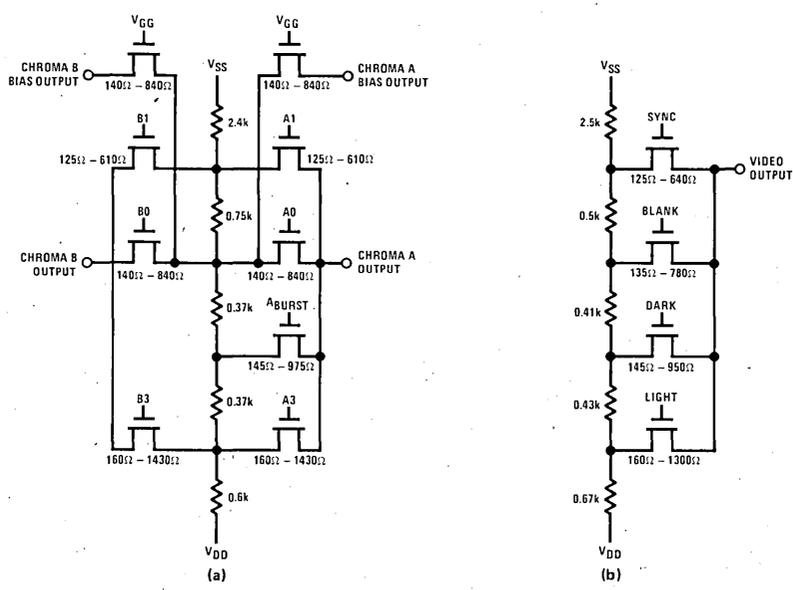

FIGURE 9. Chroma and Video Output Networks (See Notes on Page 4-41)
**Note 1:** Chroma A, Chroma B and the Chroma bias output levels are specified for dc current = 0. Typical dc loading conditions are  $30 \mu\text{A}$  or less. The resistor network in Figure 9(a) can be used to determine the shift and interaction in outputs for dc load conditions.
**Note 2:** Video output levels are specified for dc current = 0. Any other loading conditions will influence the output levels and the resistor network in Figure 9(b) can be used to calculate output levels. Typical dc currents are  $30 \mu\text{A}$  or less.